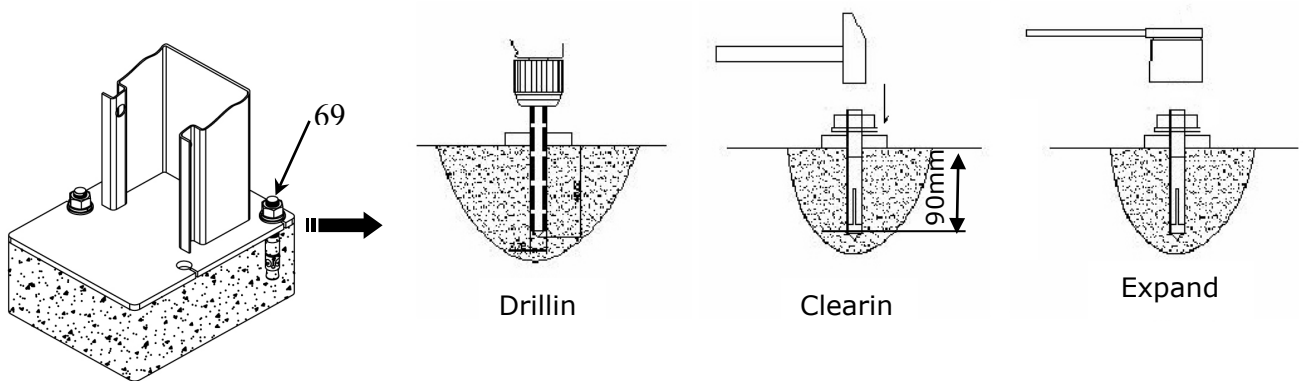

Fig. 36
2. Using the prescribed rotary hammer drill, and drill all the anchor holes and install the anchor bolts. Do not tighten the anchor bolts (**See Fig. 36**).